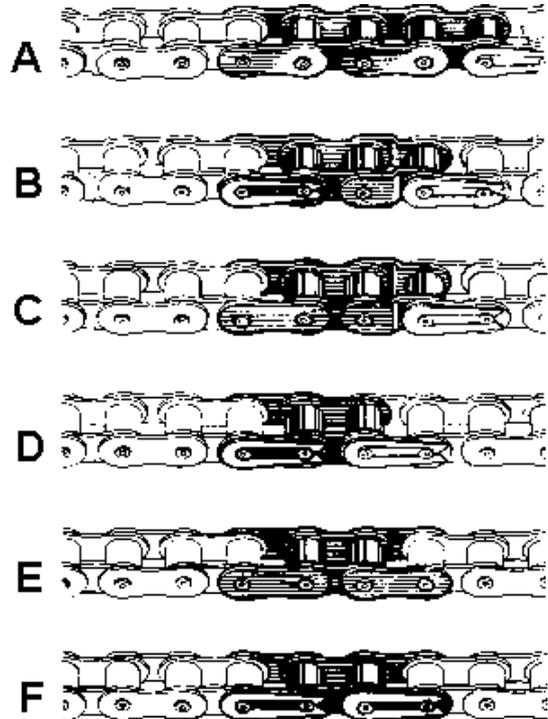

FIG. H3.
To **shorten** a chain containing an **even** number of pitches: remove the parts shown (A) Fig. H3, replace by cranked double link and single connecting link, parts shown (B) Fig. H3.
To **shorten** a chain containing an **odd** number of pitches: remove the parts shown (C) Fig. H3, replace by single connecting link and inner link, parts shown (D) Fig. H3.
To **repair** a chain with a broken roller or inner link, remove the parts shown (E) Fig. H3, replace by two single connecting links and one inner link, parts shown (F) Fig. H3.